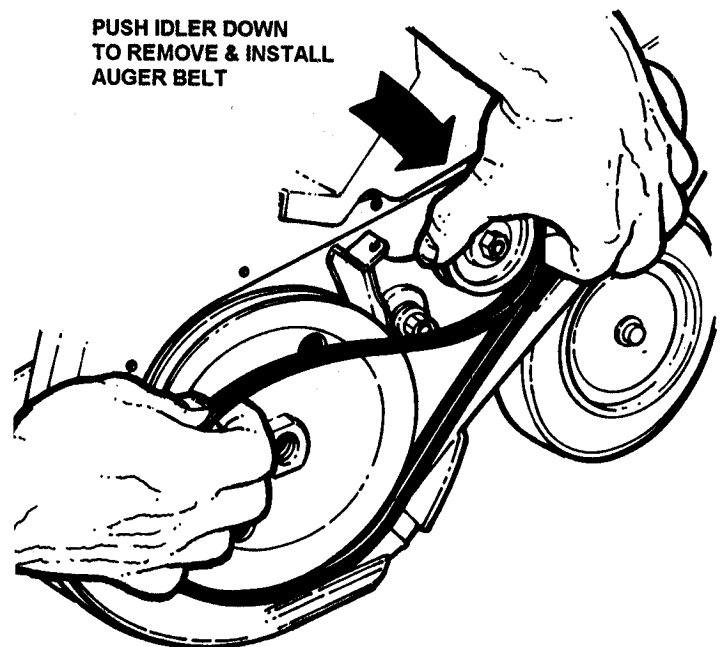

FIGURE 4.3
3. Push the spring tensioned idler pulley down and install new belt. See Figure 4.3.